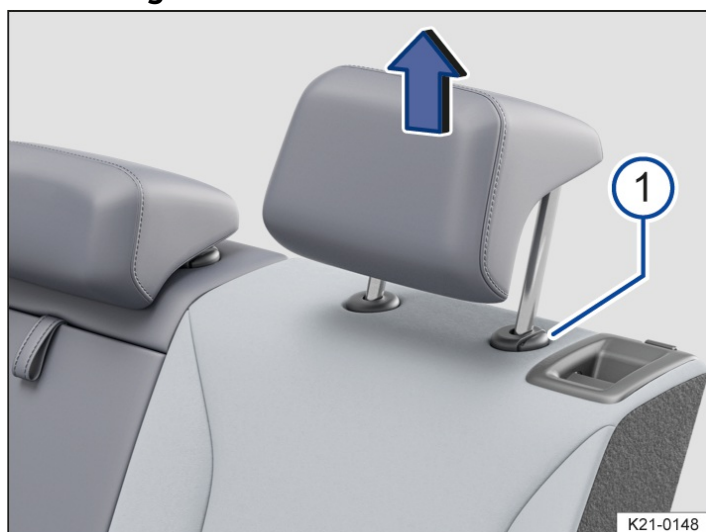

Fig. 2 Removing a rear head restraint (illustration).
3. Pull the head restraint out fully while pressing the button → Fig. 2 ¹.